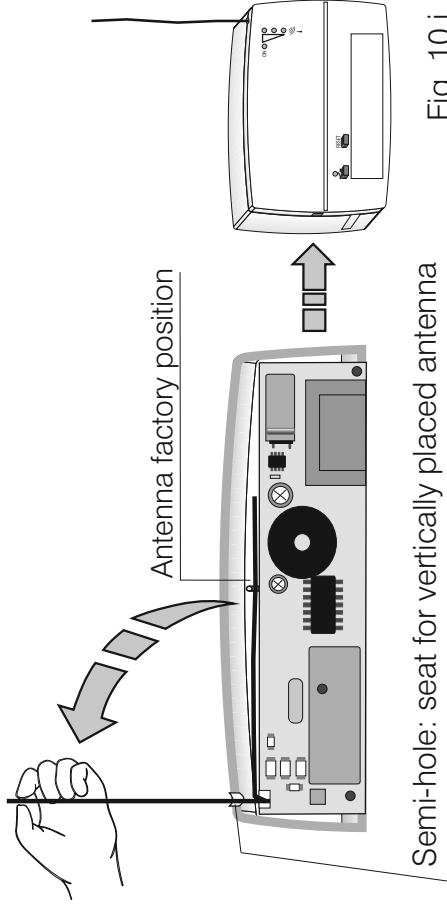

Fig. 10.i
- Pass the wire through the small semi-hole provided for the purpose (fig. 10.i)
- Carefully reclose the receiver (fig. 9.i - fig. 10.I)